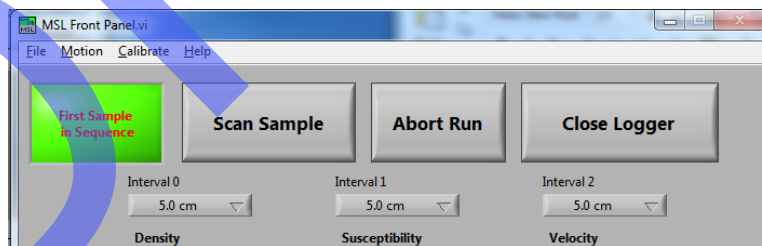
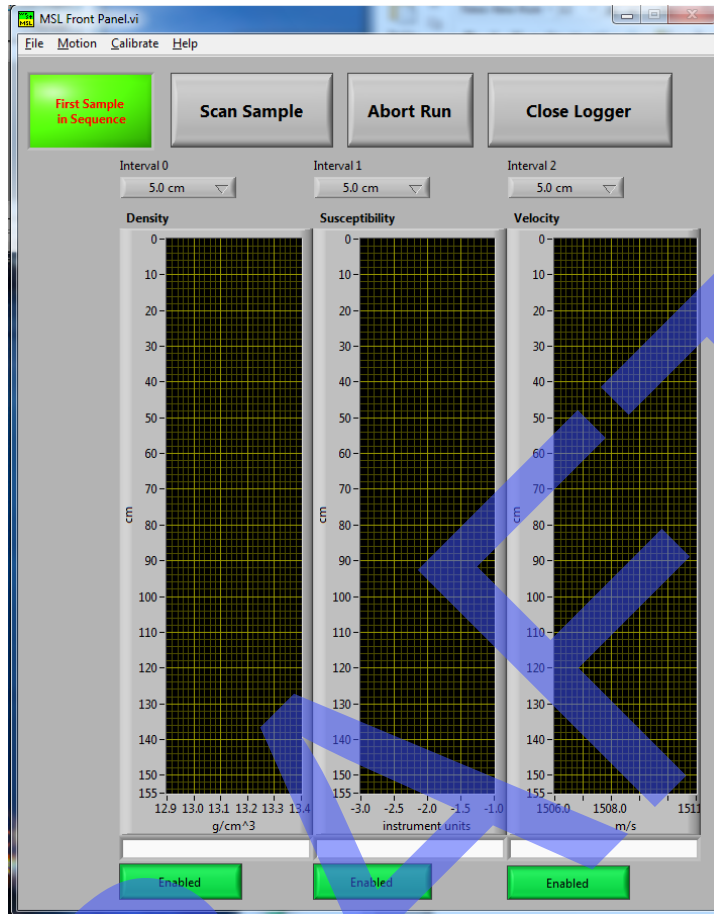

Figure 2. Close-up of controls on interface screen.
Figure 3. Program interface screen.
3. The logger **Program Interface** opens, ready to scan the first section (Fig. 2, Fig. 3). The normal order sample measurements is as follows: first section, following sections, and a push bar section (e.g., a standard core) to clear the instrument of previous sections.
Which sensors are active is at the discretion of the user and can be configured by a marine technician. The measurement interval can also be adjusted below the **Scan Sample** button on the **Interface** screen (Fig. 2).